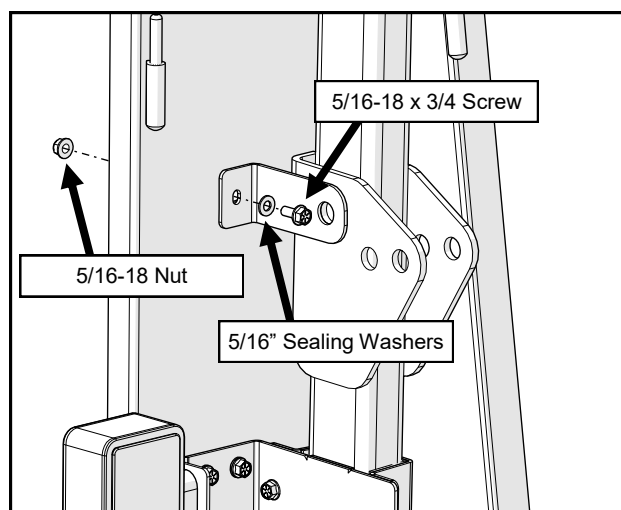

Fig. 4.3 (Loosely Secure ROPS Bracket)
**4.3** Loosely secure the bracket to the rear leg with a sealing washer on the screw. See Figure 4.3. Do not tighten hardware.